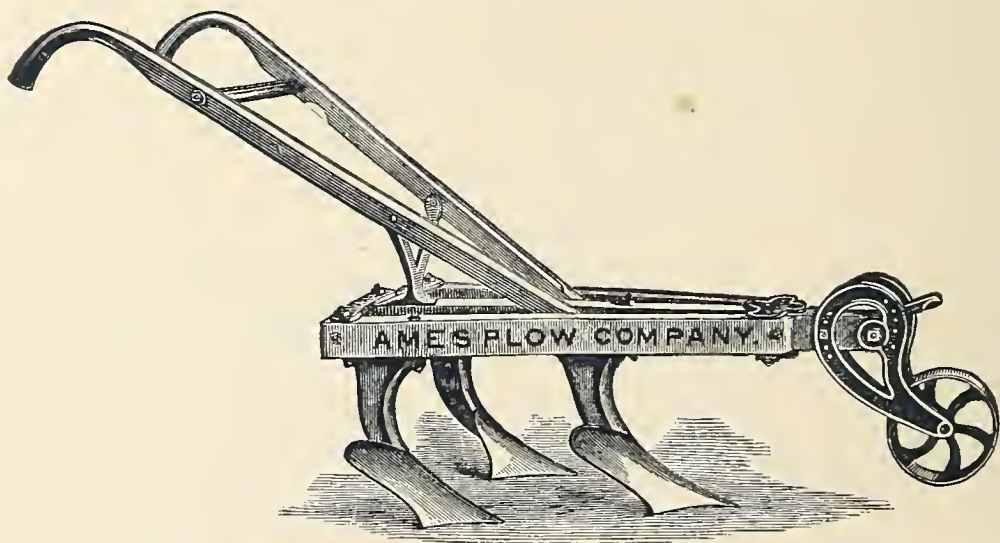
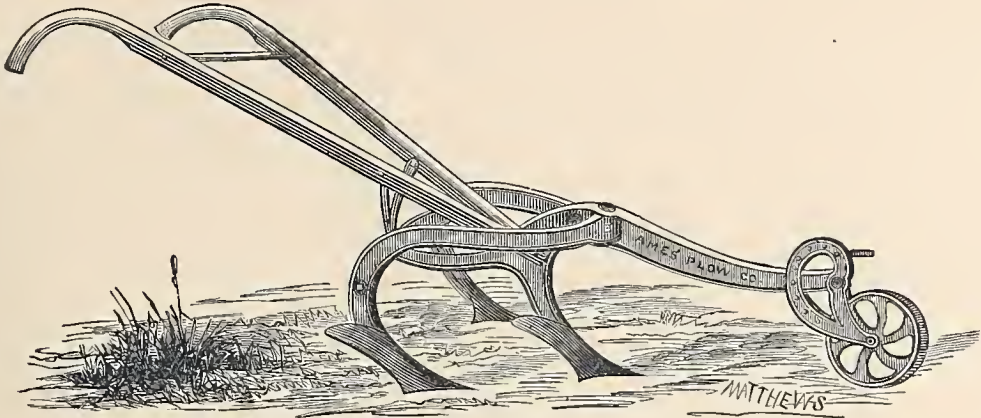

Fig. 359. — Wood Frame Boston Horse-Hoe.
Fig. 360. — Iron Frame Boston Horse-Hoe.
*The Boston Horse-Hoe*, *Figs. 359 and 360*, is designed for market-gardens and the culture of corn and root crops: it is a complete pulverizer, and mellows the
We make these horse-hoes with wood frame, as represented by *Fig. 359*, which is the style generally used, or with iron frame, as represented by *Fig. 360*.